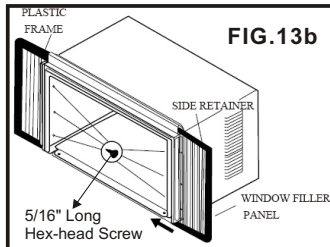

FIG.13b
5. Insert top and bottom legs of window filler panel frame into channel in the top angle and bottom rail. Do both sides. Install side retainer to cabinet as shown.FIG.13b-14.